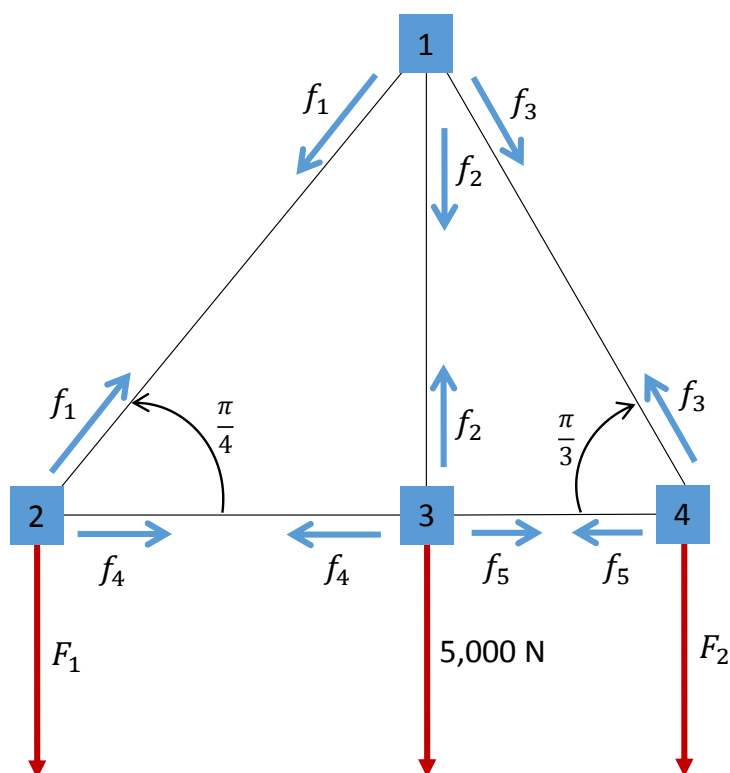

Figure 1: Distribution of the forces in a bridge.
In bridge design, one is interested in connecting lightweight pieces together to make a truss which can support weight. The pieces of the truss (black lines in Figure 1) are connected
In the diagram in Figure 1, each arrow indicates the direction of a force and is labeled according to its magnitude. Blue arrows indicate forces on the joints due to tension in the corresponding piece of the truss, and red arrows indicate external forces on the joints. In a given piece of the truss, a positive value for f_i indicates tension, while a negative value indicates compression. Pin joints 2 and 4 are held in place vertically by external forces F_1 and F_2 , respectively, but are free to move horizontally. The remaining pin joints are free to move both horizontally and vertically. A load of 5,000 newtons is placed at joint 3, and the problem is to determine the remaining unknown tensions and forces in the bridge.
1. Using the diagram of the bridge in Figure 1, write down a set of linear equations for the unknown tensions (f_1, f_2, f_3, f_4 , and f_5) and external forces (F_1 and F_2). Display your equations by completing the following table: